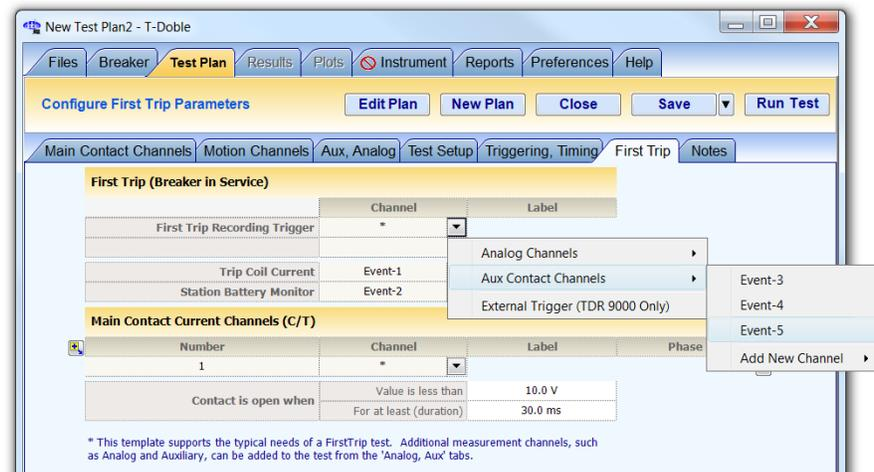

Figure 128 First Trip (Breaker in Service)
- “Aux Contact” trigger source—To use the “Aux Contact” trigger source, click the **First Trip** tab. In the Channel column, select **Aux Contact Channels** and select an existing channel (see Figure 128). Or, select, **Add New Channel** and create a new channel.